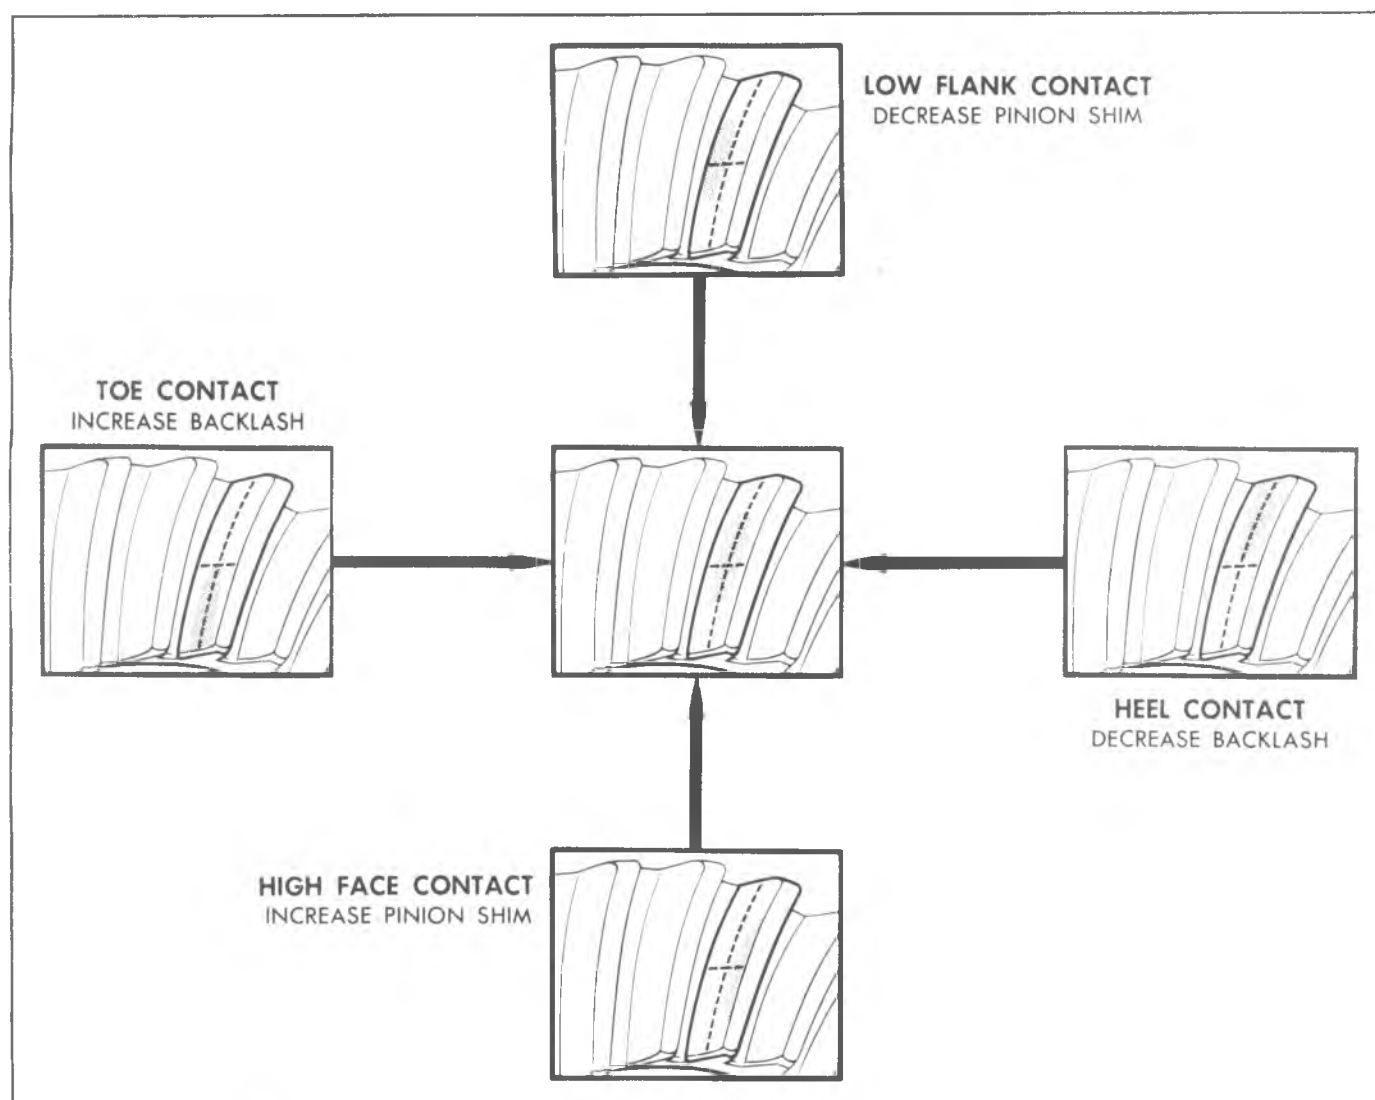

Fig. 26B--Gear Tooth Contact Pattern Check
5. Observe pattern on ring gear teeth and compare with Figure 26B.